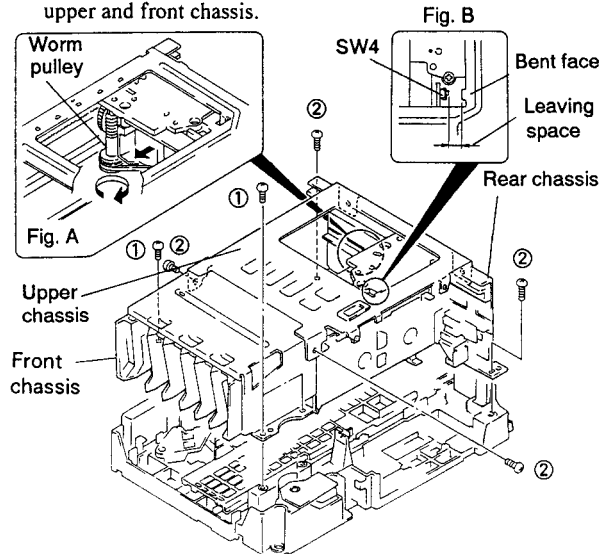

Fig. 2-7
2.6 REMOVAL OF UPPER CHASSIS AND FRONT CHASSIS (Refer to Fig 2-7.)